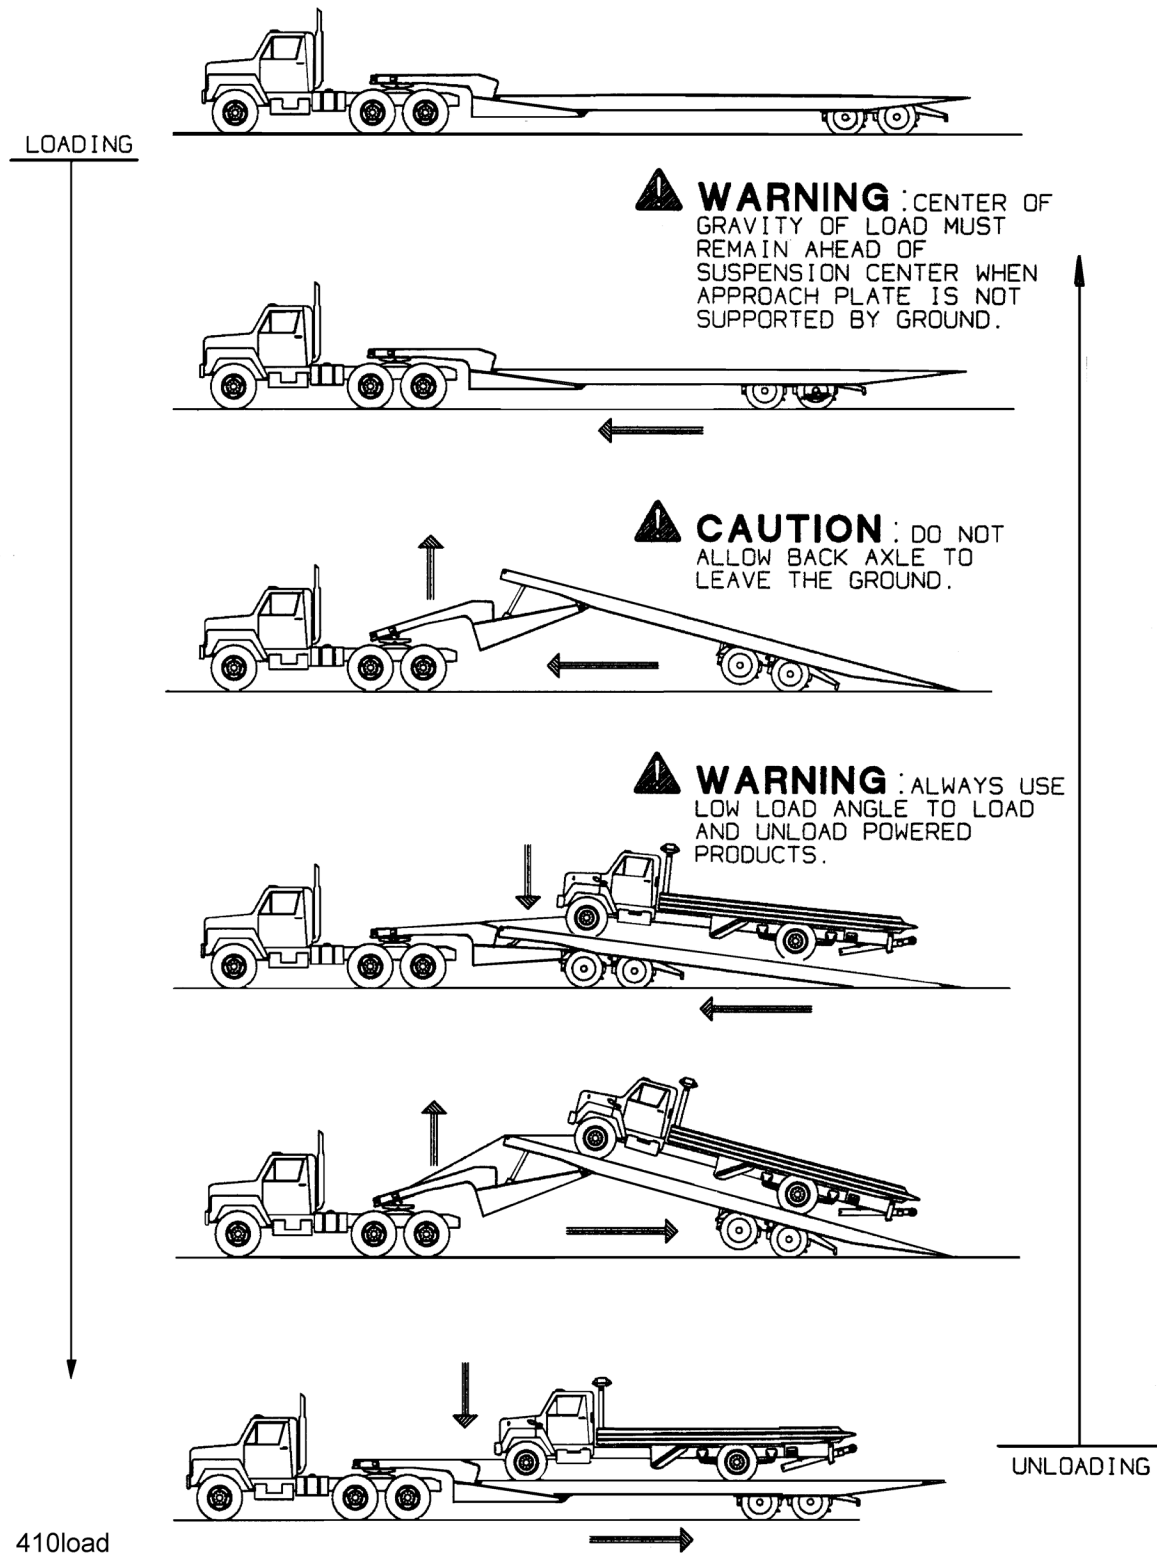

Figure 3-7: Steps for Loading and Unloading
2. Park the tractor/semitrailer in a straight line on level even surface. Set the tractor brakes and release the semitrailer brakes (See Figure 3-7.)
2. Park the tractor/semitrailer in a straight line on a level even surface (**See Figure 3-7.**) Set the tractor brakes and release the semitrailer brakes.